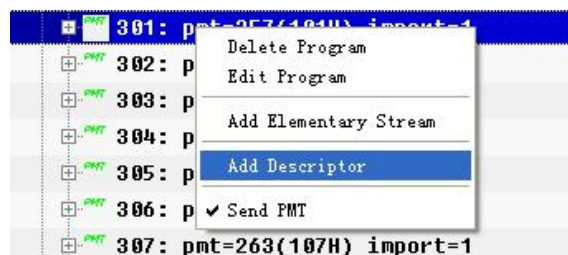

figure 3-46
- 2、select one PMT on output and add some descriptors, right key click one PMT stream, the interface is shown as figure3-46, select 'Add Descriptor'